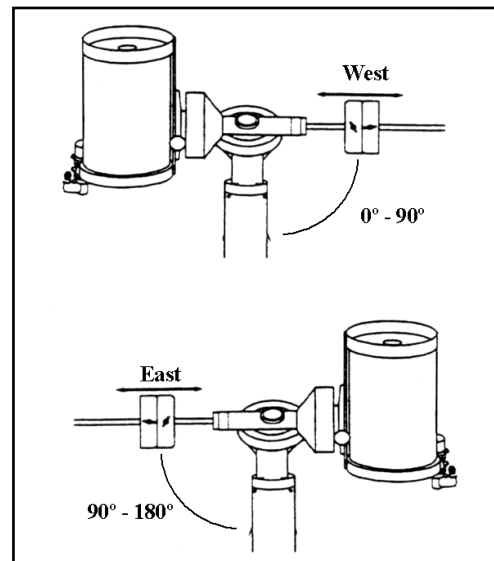

Fig 3-3 – R.A limits- This figure shows the full range of motion for the R.A. axis
R.A. Limits - Sets the limits that the telescope can slew in Right Ascension (R.A.) The slew limits are set to 0° to 180°; with zero being the position of the telescope when the counterweight bar is extended out towards the west and 180° being the position when the counterweight bar is extended out toward the east (see Fig 3-3). However, the slew limits can be customized depending on your needs. For example, if you are using CCD imaging equipment that has cables that are not long enough to move with the telescope as it slews across the sky, you can adjust the R.A. slew limit on the side of the mount that is restricted by the cables. Using the example above, the user could slew the telescope in R.A. until it reaches the point that the cables are extended to their maximum. Then by displaying the telescopes R.A. in this position (by looking at *Get Axis Position* under the *Utilities* menu) you can determine the telescopes R.A. at its most extended position. Enter this azimuth reading for either the maximum or minimum azimuth slew limit to ensure that the telescope will not slew beyond this point.